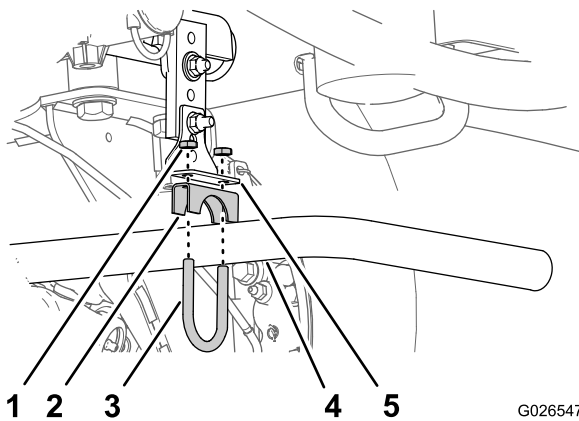
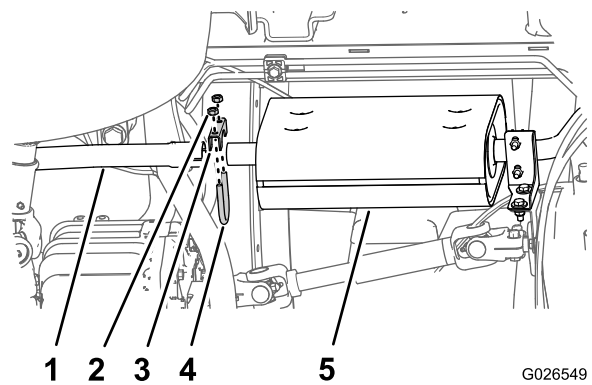

Figure 2
Figure 4
1. At the exhaust hanger and exhaust-pipe bracket, remove the 2 nuts, U-bolt, and saddle bracket that secure the tail pipe to the bracket (Figure 2).
- Remove the 2 nuts, U-bolt, and saddle bracket that secure the tail pipe to the outlet pipe of the muffler (Figure 4).
- Remove the tail pipe from the machine, and discard the pipe (Figure 2 and Figure 4).